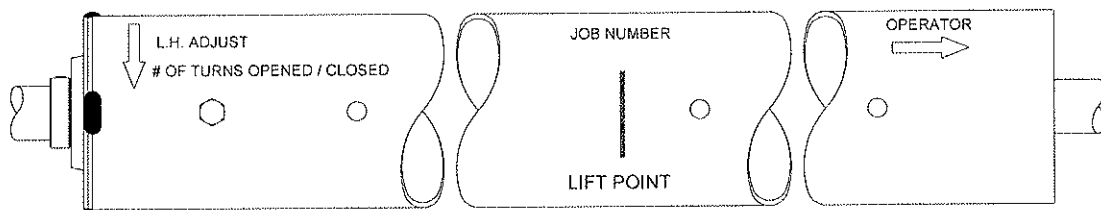

Figure 6.1 – Barrel Markings (left hand adjust shown)
2. Unpack the barrel assembly. Note the markings on the barrel, see **Figure 6.1** below.
4. Check to make sure the required number of turns is noted on the barrel, as shown in **Figure 6.1**. Consult the distributor or the manufacturer if you cannot locate this information. Check that these numbers match the information provided on the job information. Take note of these numbers, as access to this information may be obstructed once the curtain is installed.
- **Crane Hoisting:** Place a sling or lifting agent under the barrel assembly at the "lift point" provided on the barrel, see **Figure 6.1**.
- **Forklift Hoisting:** Space the forks evenly under the "lift point" provided on the barrel, see **Figure 6.1**. Ensure that the barrel assembly is positioned close enough to the tips of the forks that the fastening holes in the bracket can be aligned with those of the guides without the forks contacting the wall. Secure the barrel assembly to avoid the slipping off the tip of the forks.